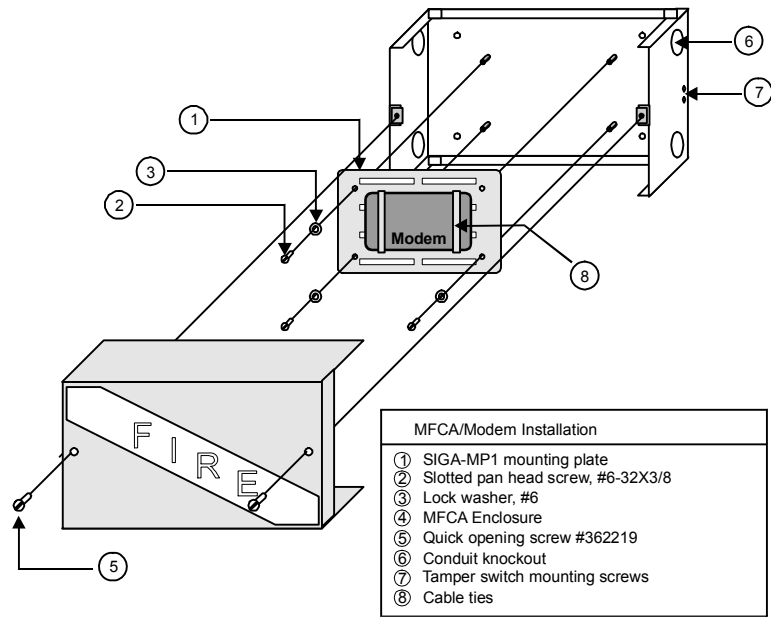

Figure 5-12: Suggested modem installation using MFCAs and SIGA-MP1
1. Mount the MFCA enclosure back box at an acceptable location within reach of the panel. Refer to Figure 5-12.